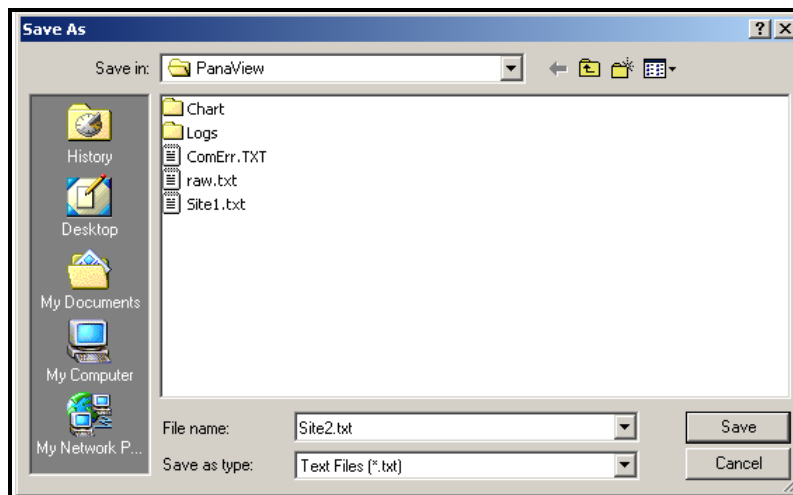

Figure 29: *Save As* Window
To *save* the raw signal, click *Save*. A window opens similar to Figure 29. Enter the desired name, and click *Save* to save the signal as a text file.
2. Click *Save Site to PC*. A window opens similar to Figure 29 on page 99.